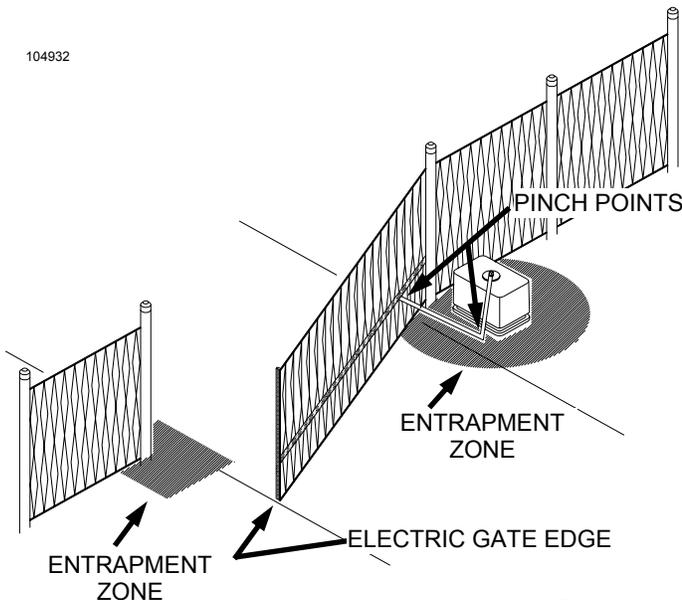

Figure 3
- Use the illustration at left (Figure 3) to minimize the risk of injury in your design of the swing gate operator system. IDENTIFY THE ENTRAPMENT ZONES AND PINCH POINT AREAS IN YOUR GATE. Design the gate installation to minimize the risk of entrapment in these areas. Install additional safety equipment such as four wire edges and photocells to further minimize risk. All entrapment zones are required to be protected.
- **Entrapment Zones:** Design in personal entrapment protection devices to protect people from entrapment in the zones shown in Figure 3 at left.
- **Pinch Points:** Use protective measures (guards, padded edges, etc.) to protect people from the pinch points shown in Figure 3 at left.
- SWING GATES HAVE THE POTENTIAL HAZARD OF HANDS AND FINGERS BEING PINCHED between the gate edge and the post to which the gate is mounted. It is recommended that the hinges be mounted so that this opening increases as the gate swings open. **PROTECT THIS "PINCH POINT" SO THIS HAZARD IS AVERTED.** See Figure 3.
- CONSIDER ALL OTHER "PINCH POINTS" IN YOUR DESIGN of the gate system. Observe the arm as it opens and the two arm pieces swing past each other. Use protective measures to reduce hazards at this location. Restrict access to the arm motion. See Figure 3.